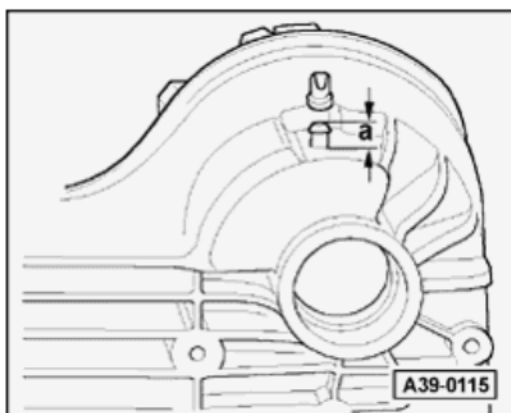

Fig. 67: Installed Location Of Breather Sleeve
- Installation position. See Fig. 67.